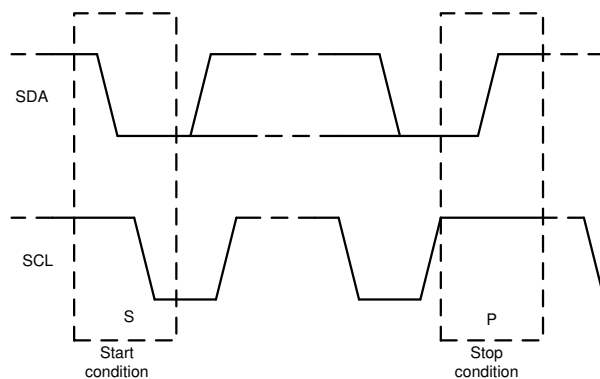

図 7-3. Start and Stop Conditions
1. The master initiates data transfer by generating a start condition. The start condition is when a high-to-low transition occurs on the SDA line while SCL is high, as shown in 図 7-3. All I²C-compatible devices recognize a start condition.